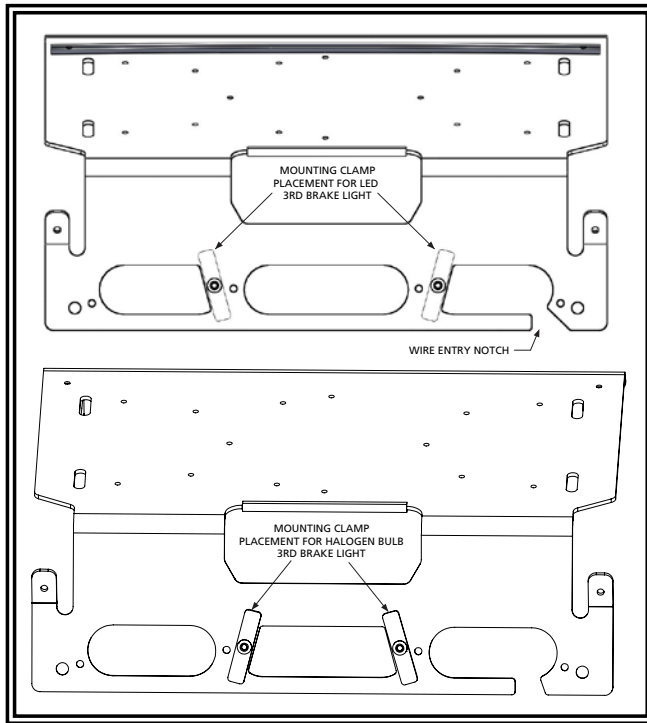
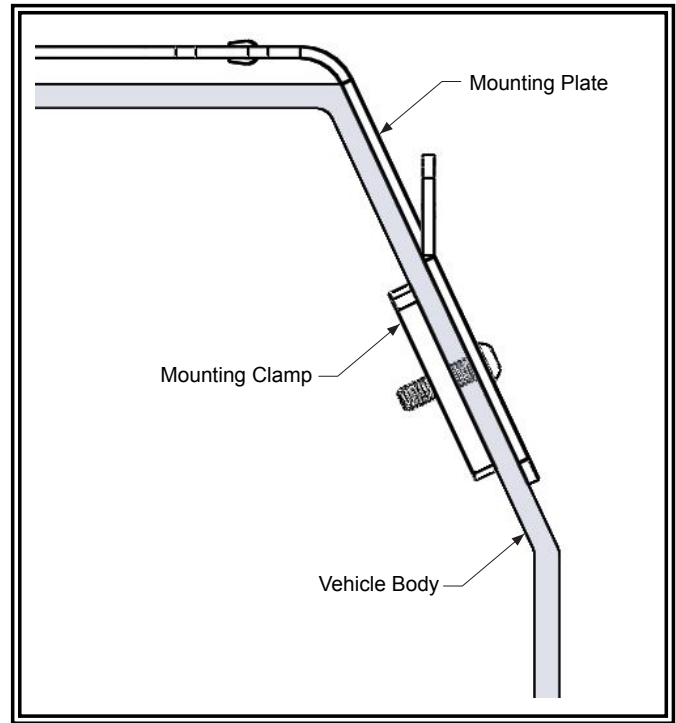

FIGURE 2
FIGURE 3
4. Place the mounting clamps inside the vehicle body in the position shown in FIGURE 2. Line up the straight diagonal edges. The mounting clamps and the mounting plate should sandwich the body of the vehicle as shown in FIGURE 3. Hold the mounting brackets in place by hand and loosely secure into place with the supplied screws.